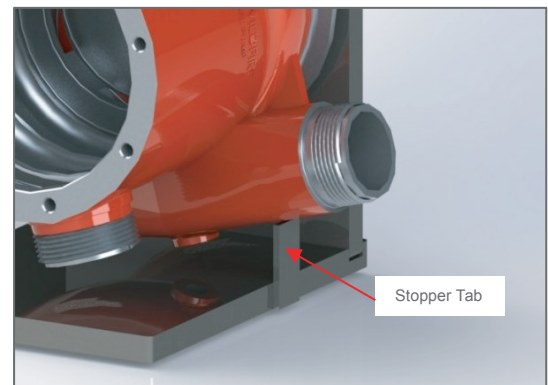

Figure 5: Rotate pump to Stopper Tab
7. Rotate pump body until discharge rests on Stopper Tab. See Figure 5.